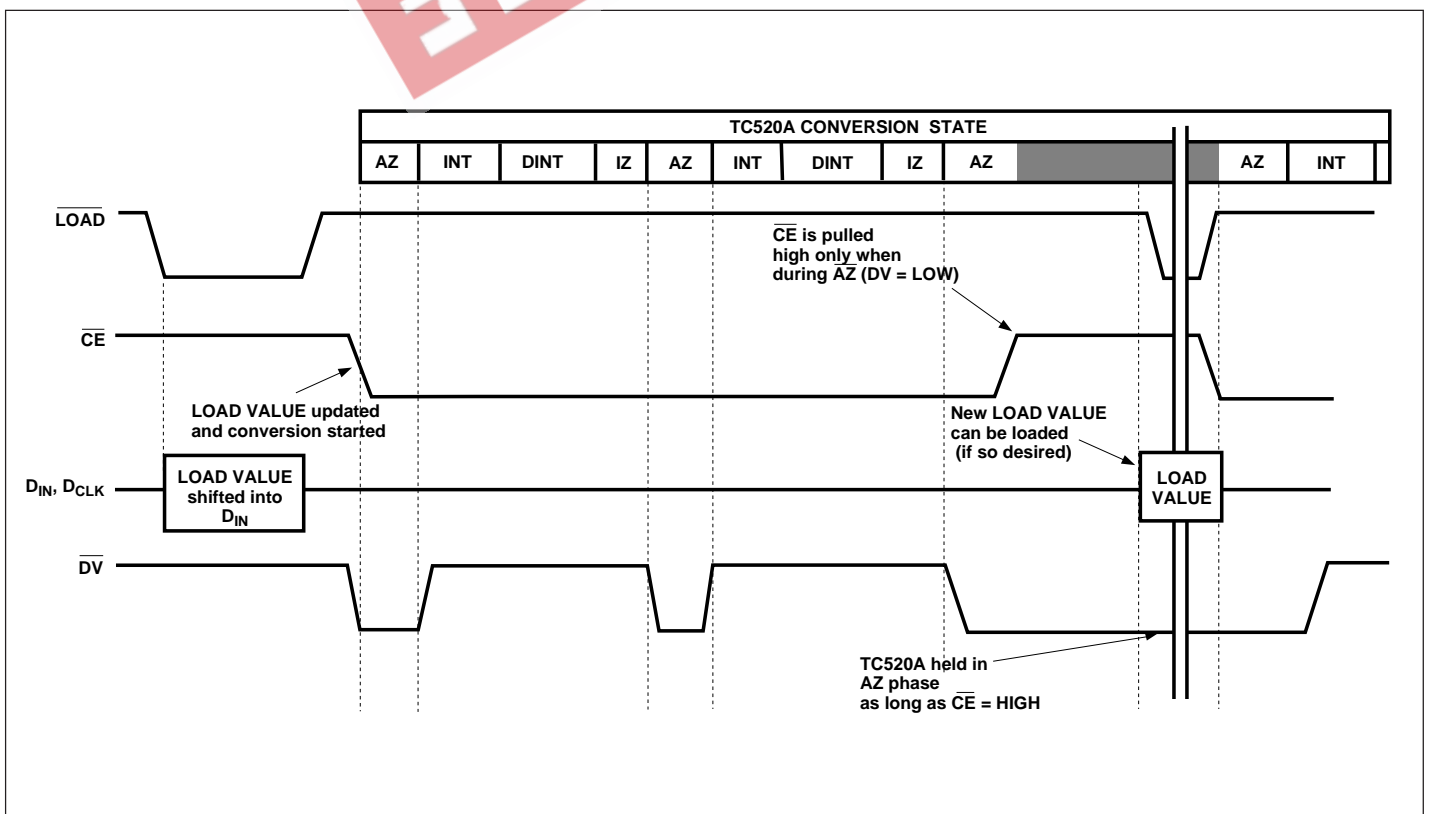
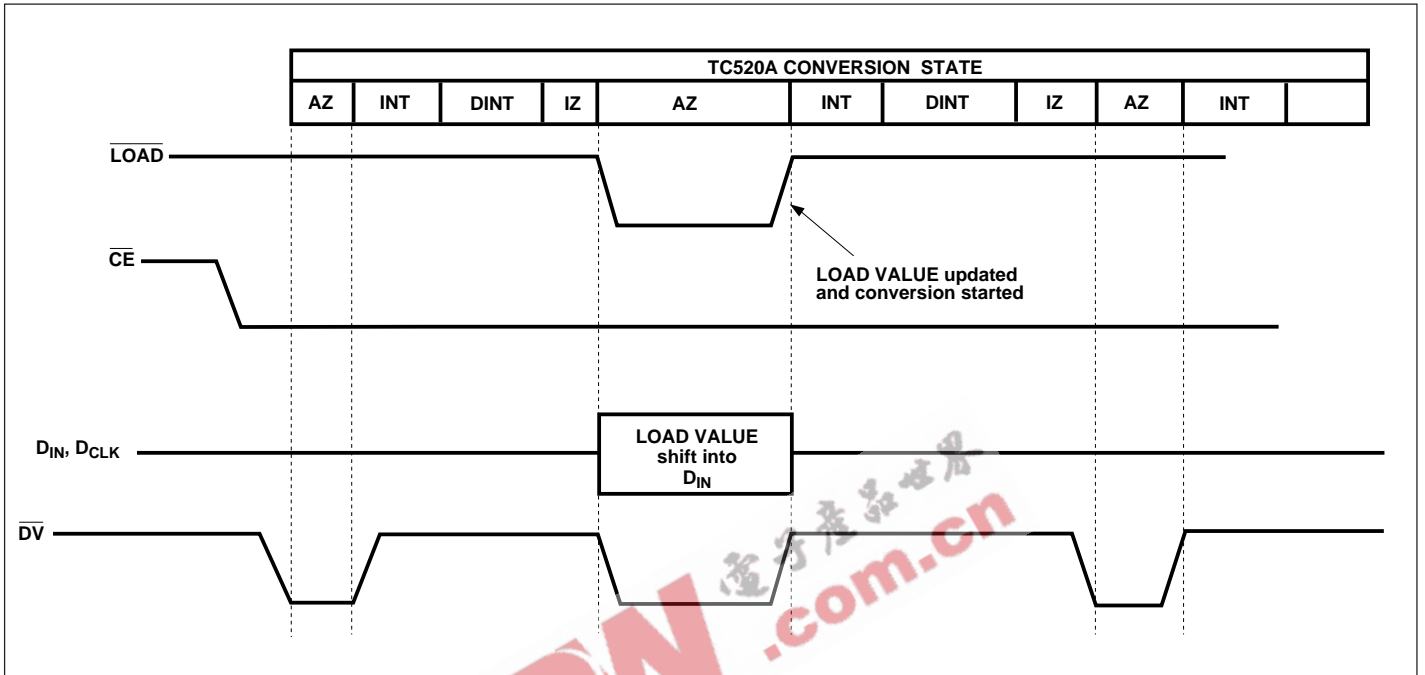

Figure 1. TC520A Initialization and Start/Stop Conversion Timing Relationships
Figure 2. Load Value Modify Cycle
A, B have been sequenced through the required 4 phases of conversion: Auto Zero (AZ), Integrate (INT), De-integrate (D_{INT}) and Integrator Zero (IZ) (See Figure 1). The Auto Zero phase compensates for offset errors in the TC5xx A/D converter. The integrate phase connects the voltage to be converted to the TC5xx A/D converter input (resulting in an integrator output dv/dt directly proportional to the magnitude of the applied input voltage). Actual A/D conversion (counting) is initiated at the start of the D_{INT} phase and terminates when the integrator output crosses 0V. The integrator output is then forced to 0V during the IZ phase and the converter is ready for another cycle. Please see the TC500/500A/510/514 data sheet for a complete description of these phases.
a range of $AZ = INT = 256$ counts to 65536 counts). (See Figure 2). The LOAD VALUE sets the number of counts for both the AZ and INT phases and directly affects resolution and speed of conversion. The greater the number of counts allowed for AZ and INT; the greater the A/D resolution, but the slower the conversion speed.
In this example, $\text{LOAD VALUE} = 128_{(10)} = 10\text{H}$. Therefore, a LOAD VALUE of 10H is loaded to the TC520A. If the desired T_{INT} was 100msec instead of 131msec, the LOAD VALUE would be 9EH, and so on. The TC520A LOAD VALUE must be initialized on power-up, and can be re-initialized as often as desired thereafter. This is accomplished by bringing the $\overline{\text{LOAD}}$ input low while transmitting the appropriate LOAD VALUE to the TC520A as shown in Figure 1 and Figure 2.